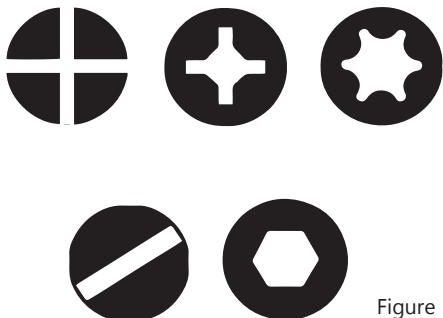

Figure 1
- 1 Determine bone screw configuration & size (Fig. 1) and corresponding driver from the S9MAXI system.